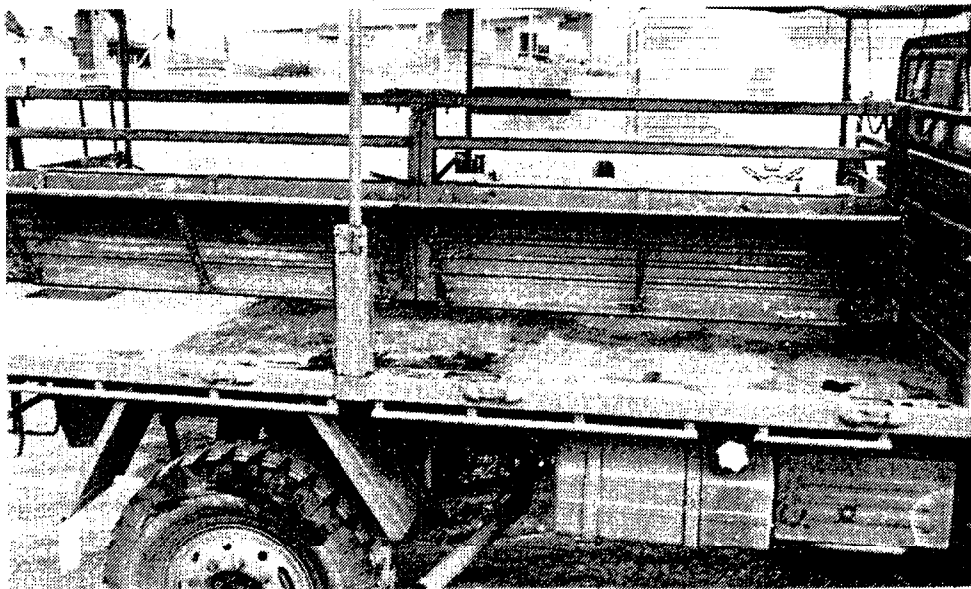

FIG 1 - SEAT PAIRS IN POSITION WITH SECURING CLAMPS
- g. Once dropsides are in position secure the seat tops by fitting the seat end clamps at the front and rear of the seat back rests, and the seat centre clamp in the centre of the seat back rest so that the front and rear seat pairs are secured together (see Fig 1).